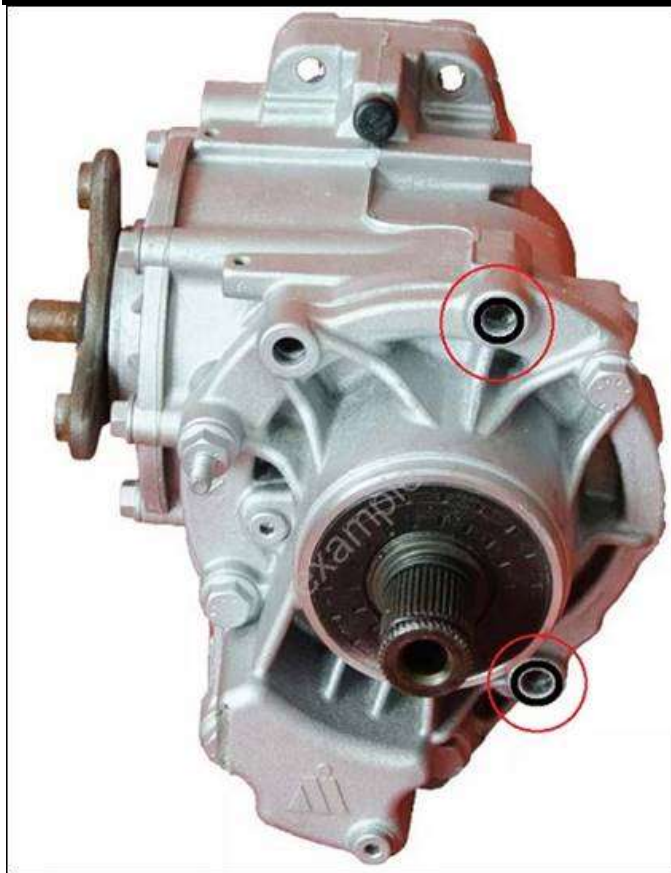

Figure 3.
- Also apply a continuous bead of the silicone sealant to the face of the two bolt holes seen in Figure 3.
Ensure that the silicone sealant is applied as pictured in Figure 3. Only apply silicone sealant to the outer surface of the bevel box and do not allow silicone sealant to get into the boly holes or threads as reassembly will be difficult.